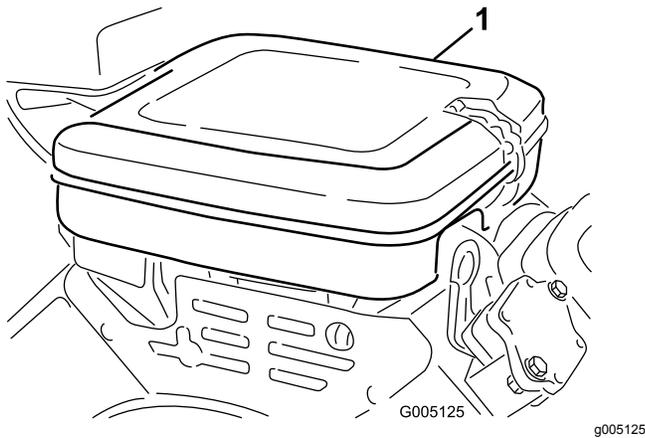

Figure 34
1. Clean the air-cleaner cover (Figure 34).